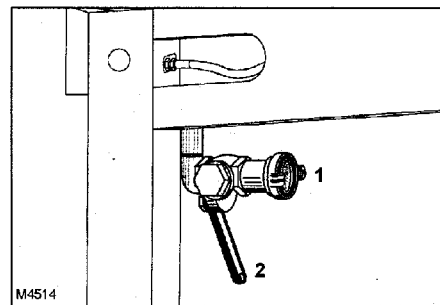

Fig. 1
For fast filling and draining of the water reservoir, our truck-mounted concrete pumps are equipped with an inlet for the connection of hoses with a "C"-type coupling (example 1, Fig. 1).
1. E-stop contacts (see **Figure 1**): The original e-stop switches had contacts that were a nickel-plated copper which was much more susceptible to corrosion and tarnishing than gold plated contacts. Today Schwing America, Inc. uses e-stop switches that have gold plated contacts and the original switches may be retrofitted with these gold plated switches. The easiest way to determine what type of e-stop switch is on your machine is to look at the model number stamped on the side of the switch. Both model numbers are the same except the gold plated switches have a letter “Z” stamped on the end. Refer to **Figure 1** to view these differences. Schwing America, Inc. part number for these gold plated e-stop switches is 30338211.